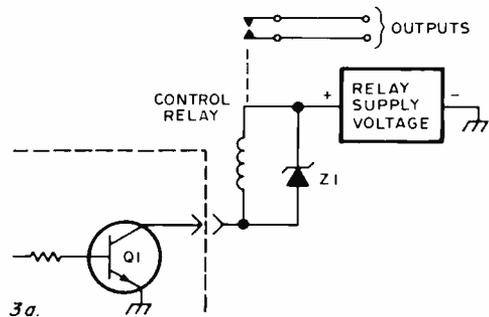

Figure 3a: Interfacing relays.  $Z_1$  is used to protect  $Q_1$  from spikes.  $Z_1$  should have a breakdown voltage just higher than the relay voltage.
**Hardware.** The circuit provides 16 transistors in an open collector configuration, which may be viewed as open switches when off, and as switches shorted to ground when on. Each transistor can handle about 30 V and 30 mA. These may be used to control bigger transistors, or relay coils may be energized through them, or small electronic devices (sirens, light bulbs, etc.) may be powered directly with them by placing a voltage source in series with the device and the transistor. This is shown in several variations in figure 3. A word of caution is in order here if inductive loads such as relay coils are used: The collapsing magnetic field of the relay coil as it is turned off can generate large voltage spikes which may damage the transistors. Relay coils (see figure 3a) should therefore be protected with shunt diodes to short out these spikes when they approach dangerous levels. Relays may also oscillate at high frequencies if selected frequently in a program, so small capacitors may be necessary across the windings to short these oscillations to ground. From my own experience I found about half the surplus relays I tried exhibited this problem, but tinkering with various small capacitors clears it up.